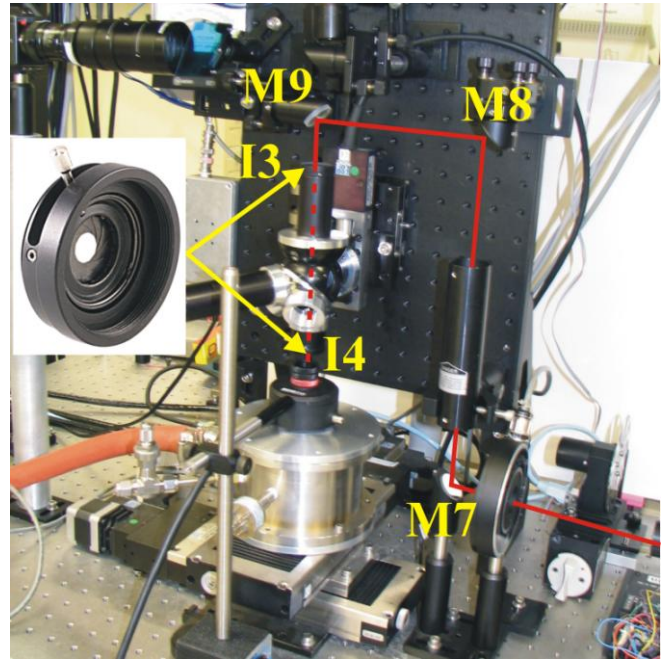

FIGURE 22
**Note:** If all microscope spots are used up or the iris is not in the revolver free up one slot and screw in the SM compatible iris (also shown in FIGURE 22).
21. Follow the beam with an IR viewing card through the beam path from the shutter to M7, M8, M9 and the microscope head assembly (see FIGURE 22). Close the shutter and place the beam profiler below the lens tube with the iris.
7. Follow the beam with an IR viewing card through the beam path from the shutter to M7, M8, M9 and the microscope head assembly (see FIGURE 22). Close the shutter and place the beam profiler below the lens tube with the iris.